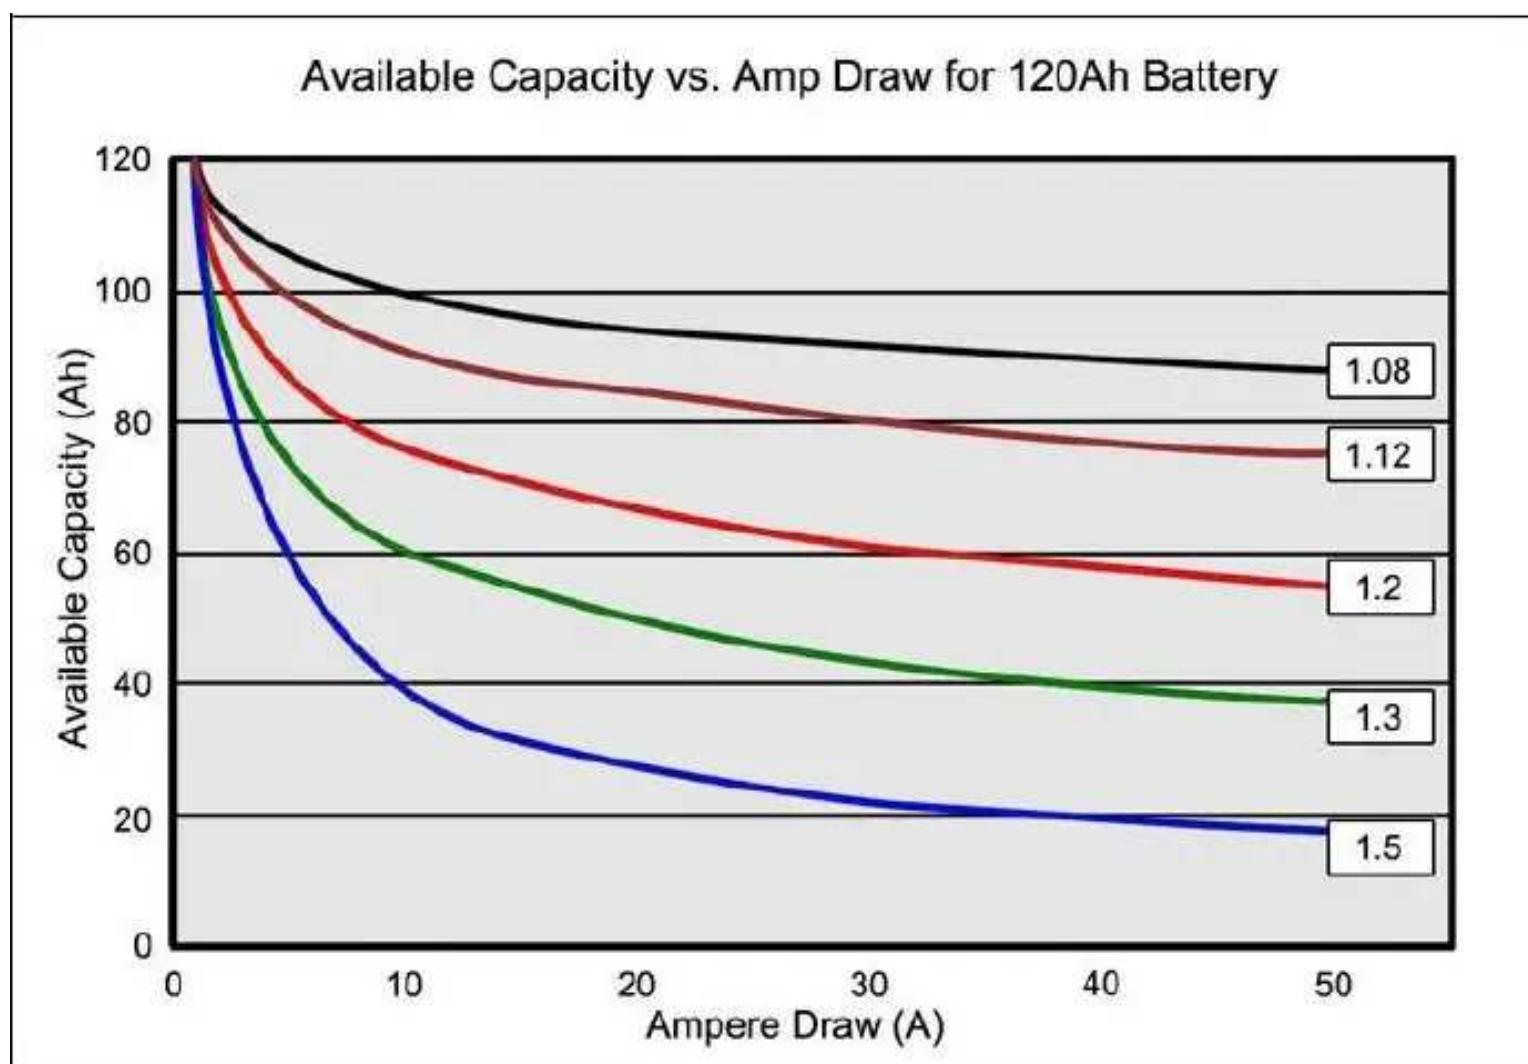

Figure 5-10: Available capacity of a lead acid battery at Peukert numbers of 1.08–1.50.
The Peukert Law takes into account the internal resistance and recovery rate of a battery. A value close to one (1) indicates a well-performing battery with good efficiency and minimal loss; a higher number reflects a less efficient battery. Peukert's law is exponential; the readings for lead acid are between 1.3 and 1.5 and increase with age. Temperature also affects the readings. Figure 5-10 illustrates the available capacity as a function of amperes drawn with different Peukert ratings.